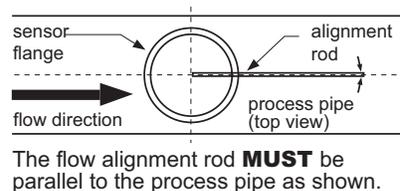
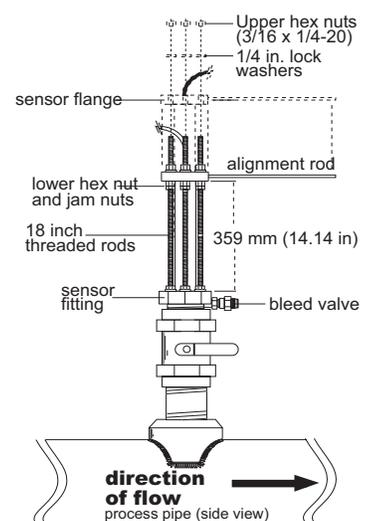

Fig. 10
Fig. 11
- D. Secure the sensor with lock washers and upper hex nuts on the top of the flange. Before tightening, align the sensor flange so that the alignment rod is parallel and level with the process pipe. (Fig. 10 & Fig. 11)